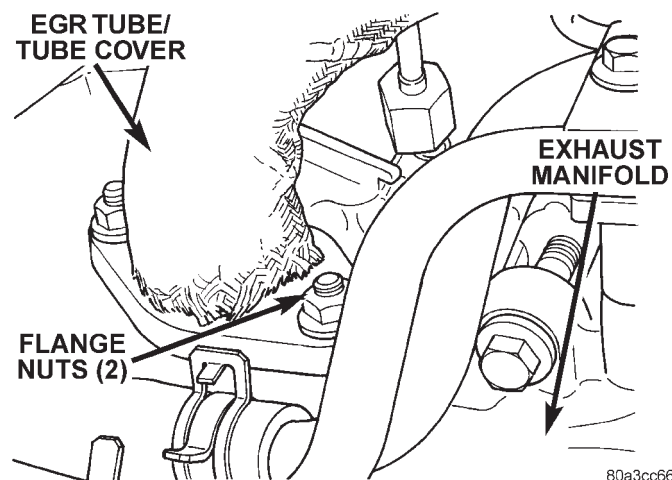

Fig. 11 EGR Tube Nuts at Exhaust Manifold
(2) Remove 2 EGR tube mounting nuts at exhaust manifold end of tube (Fig. 11).
(3) Remove EGR tube and discard old gaskets.
(4) Clean gasket mating surfaces and EGR tube flange gasket surfaces.